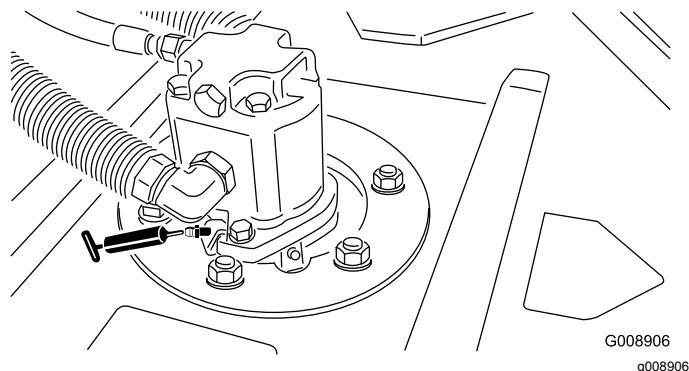

Figure 37
- Cutting unit spindle-shaft bearings (2 per cutting unit)—Figure 37